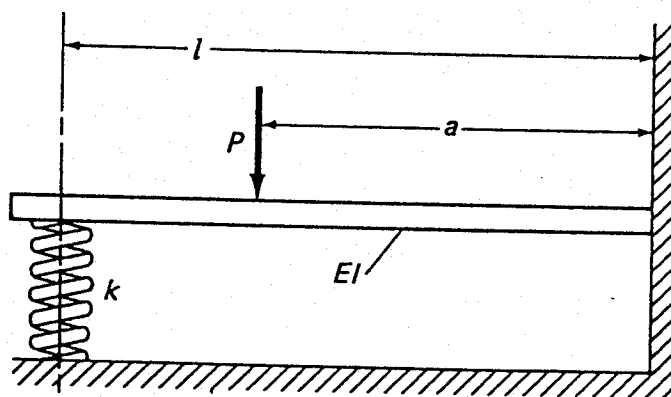

Figure 4
4. Consider the cantilever beam shown in Figure 4. It is supported at the free end by a spring of stiffness  $k$ .
- (i) Establish whether or not this is a statically determinate problem. (2)
- (ii) Determine the deflection of the beam at the spring and the bending moment at the built-in end. (14)